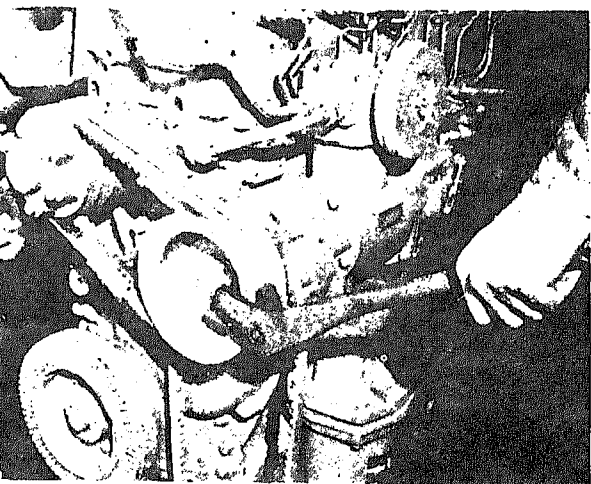

Fig. 14-1-81. Barring engine
1. Using ST-747 Barring Wrench on accessory drive pulley, Fig. 14-1-81, bar engine in direction of rotation to No. 1 top-center firing position. In this position, intake and exhaust valves for No. 1 cylinder are closed. If not, rotate engine one full turn.